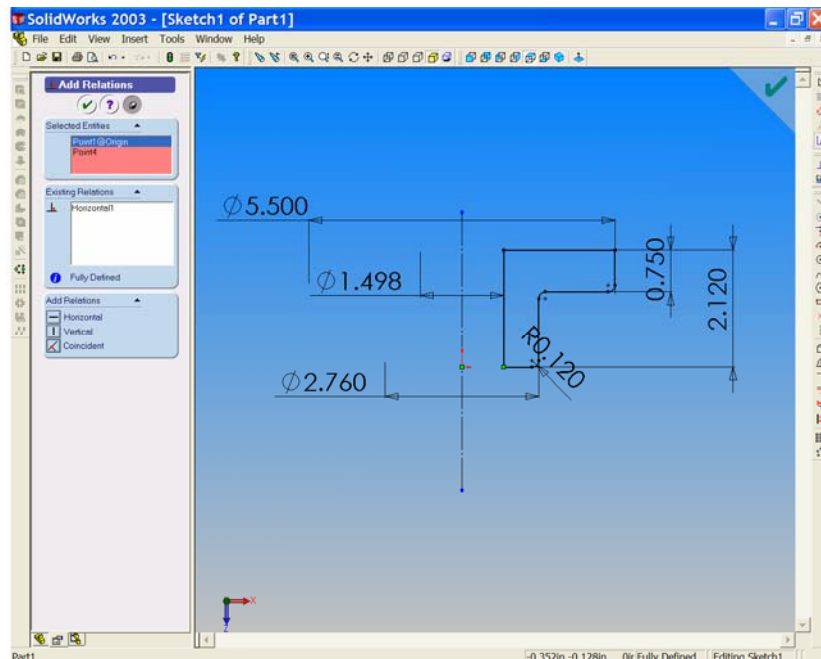

Figure 2
2. Open a **Sketch** on the **Top Plane** and sketch the profile shown in Figure 2.